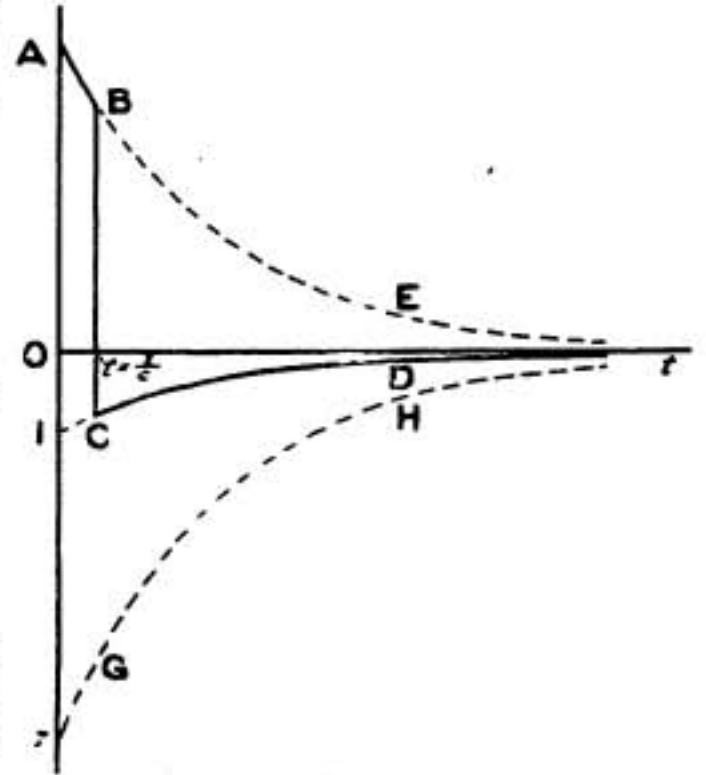

Fig. 5.
Let the static impulse again be of the type given by equation (1). The two e.m.f.'s acting in opposite directions are ABE and GH (Fig. 5). The resultant e.m.f. acting in the loop is given (in absolute value) by ABCD, where
$$[ICD] = [FGH] - [ABE]. \text{ (Fig. 5).}$$